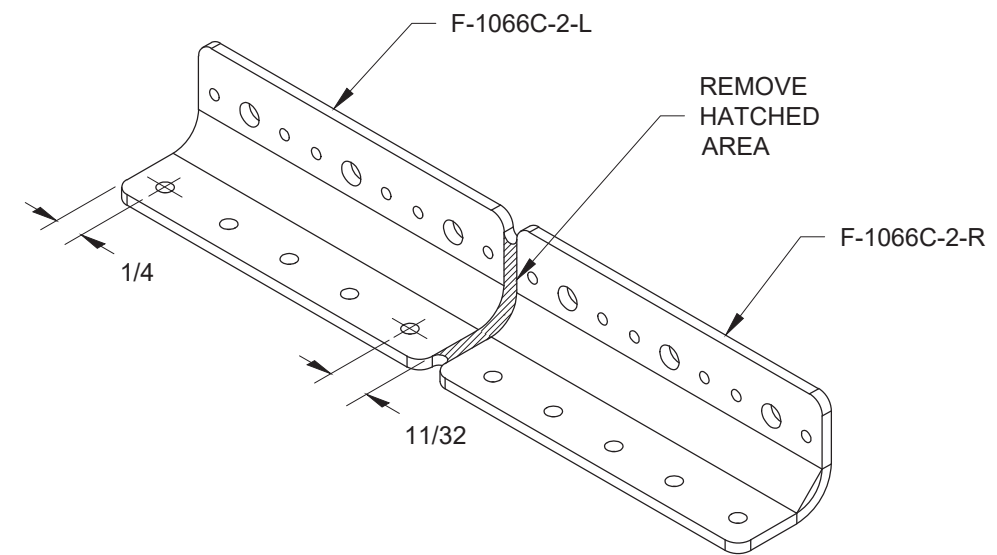

FIGURE 3: SEPARATE REINFORCING ANGLES
Step 3: Separate and deburr the F-1066C-2 Reinforcing Angles into F-1066C-2-L & -R as shown in Figure 3. Identify and mark them 'L' and 'R'.